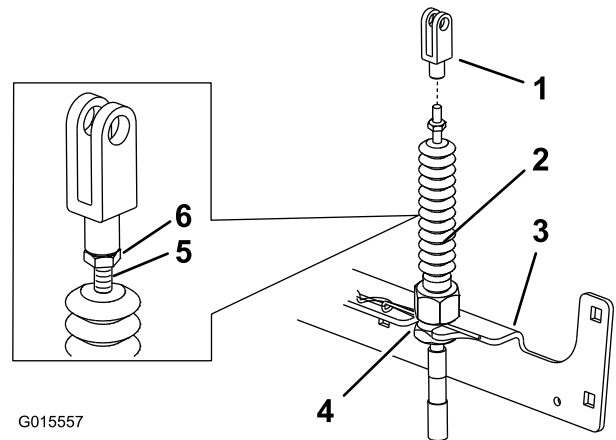

Figure 12
2. Hold the yoke and tighten the jam nut against the yoke to lock it in place. Repeat for the opposite side (Figure 12).
4. Slide the cables into the cross bracket slots with the adjustment nuts on top (Figure 12).